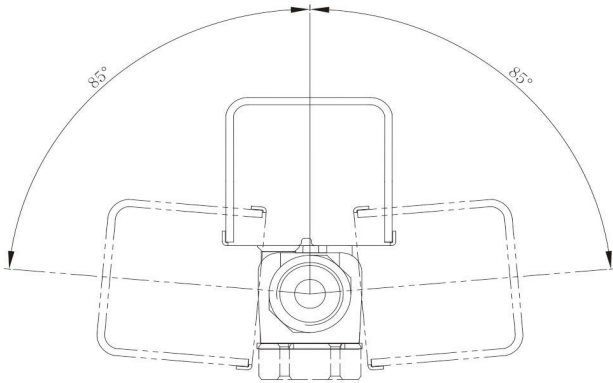

Figure 1: Installation Position
- When the valve is installed in a horizontal pipe, the included angle between the installation plane and the vertical plane should not be greater than 85°, as shown in Figure 1. When the valve is installed in vertical pipe, the enclosure should prevent dripping water from penetrating into the motor.